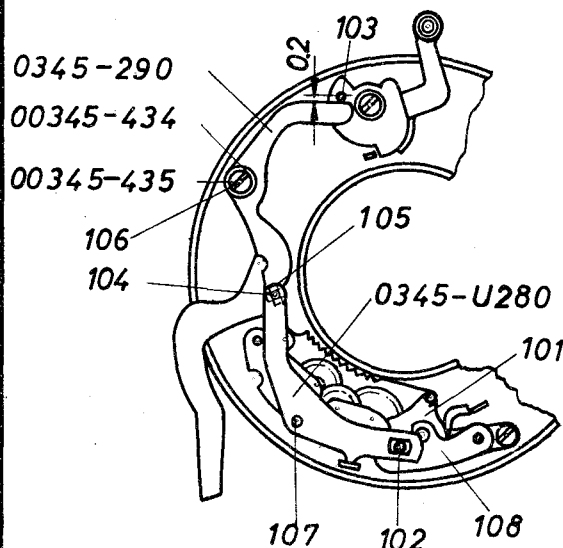

Fig. 12a
(1) The PRONTOR-SVS shutter is cocked in the same manner as the other Gauthier shutters described earlier, i.e. either by means of the cocking lever projecting from the shutter casing or by means of the cocking shaft extending through a hole in the back of the casing.
(2) (a) Simultaneous cocking of the shutter mechanism and the delayed-action device is provided for by a system of levers (Figs. 12a and 12b) comprising a cocking arm 1 and a cocking arm 2. The cocking arm 2 is pivoted about a pin 102 carried by the segment wheel 101 of the delayed action device, whereas the cocking lever co-operates with the cocking arm 1 through a bevelled pin 103 which is riveted to the cocking lever.
During an initial period of the manufacture of PRONTOR-SVS shutters, the cocking arm 2 was placed freely movable on the side plate 108 (see Figs. 12a and 12b) and was held in position by the time setting ring. In some of these shutters, cumulative assembly tolerances were compensated for by the insertion of shims between the cocking arm 2 and the time setting ring. Some of these shims are made of thin spring steel strips, while others consist of plastic material.